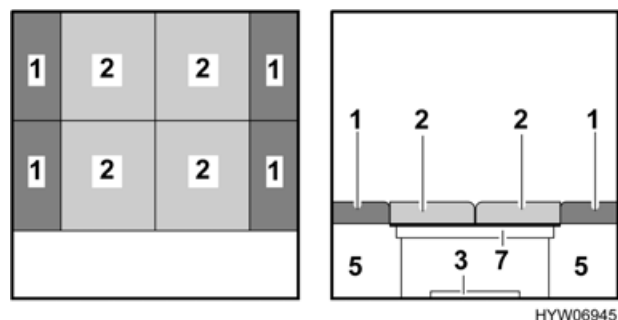

Fig. 51 After conversion
- Insert the back cushions (Fig. 51,1) between the seat cushions (Fig. 51,2) and the exterior wall.